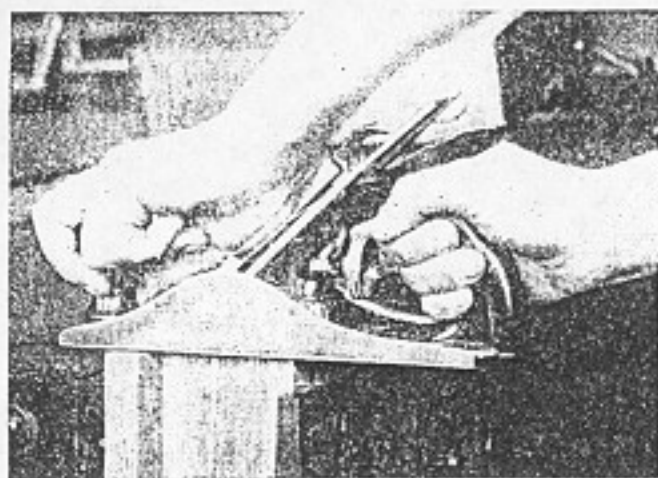

Fig. 120. Planing end of narrow board.
12. When a narrow board is not wide enough to permit the cutting off of a corner (step 5), a piece of waste wood is placed behind it in the vise (Fig. 120). This prevents the wood from splitting when the ends are planed.